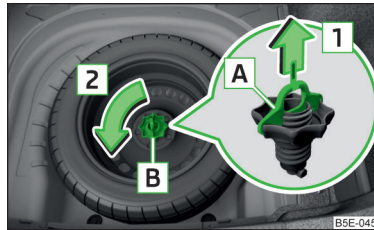

Fig. 327
The wheel is located in a well under the floor covering in the boot and is fixed in place with special bolt **B** » Fig. 327.
- › Remove locking **A** in the direction of arrow **1** » Fig. 327.
- › Screw in nut **B** in the opposite direction to arrow **2** » Fig. 327.